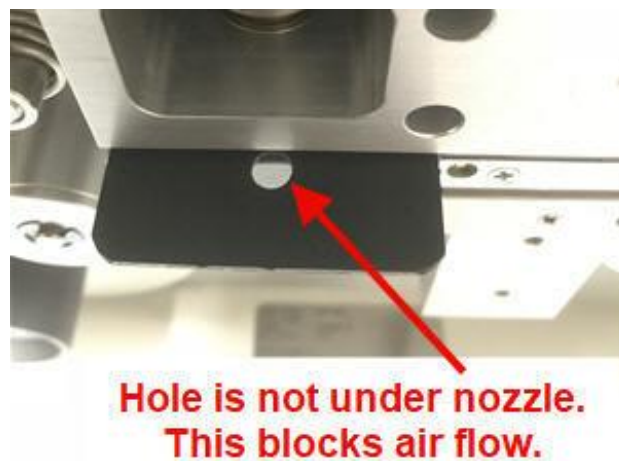

Figure 2-3 Nozzle Seal Tool with Solid Side Under the Nozzle
2. Rotate the Nozzle Seal Tool so that the solid portion of the tool is positioned beneath the nozzle. See Figure 2-3.